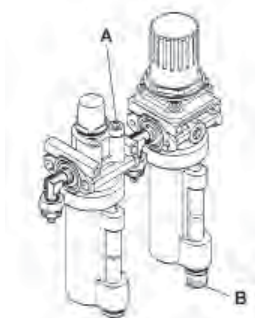

Fig. 6.0-3
**H.** Discharge water from air filter every day!! Do this by turning the knob "B" clockwise and push upward. Water will automatically be discharged. (see 'B' at Fig. 6.0-3).